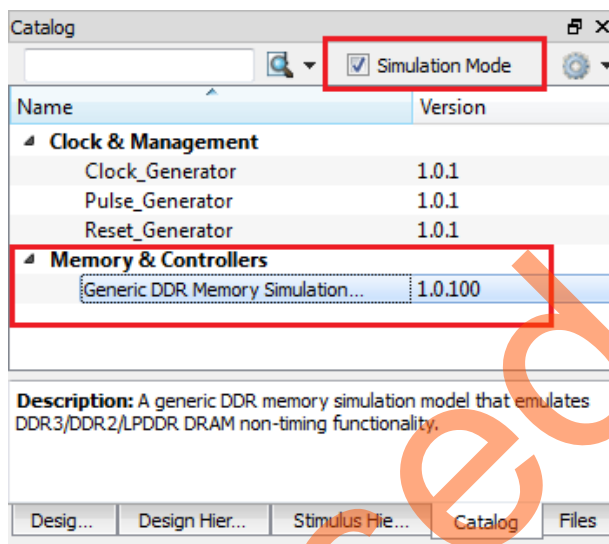

Figure 9 • Catalog Dialog Box
3. Select the **Generic DDR Memory Simulation** model under **Memory & Controllers** to drag into the SmartDesign testbench canvas. Figure 9 shows the **Catalog** dialog box.